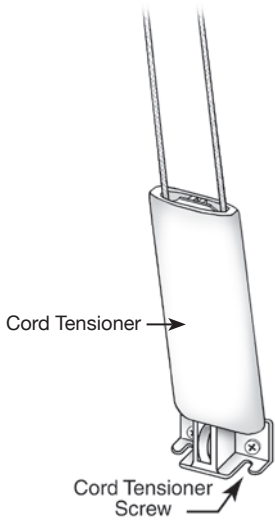

Figure 1
1. Use two screws to secure cord tensioner to wall (Fig. 1). For hollow walls use screws in conjunction with anchors, provided.